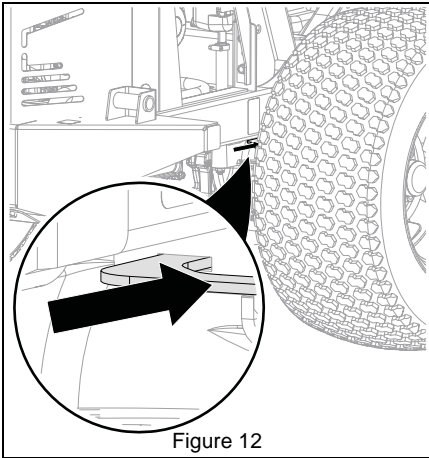

Figure 12
- operating position. See Figure 12.